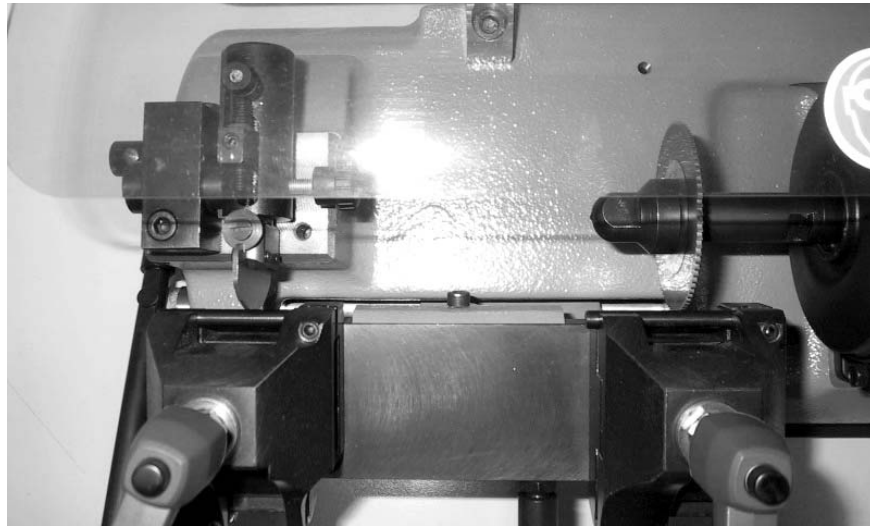

Fig. 8
- 1) Insert the supplied gauges horizontally in the clamp housings (side 1) (fig.8).